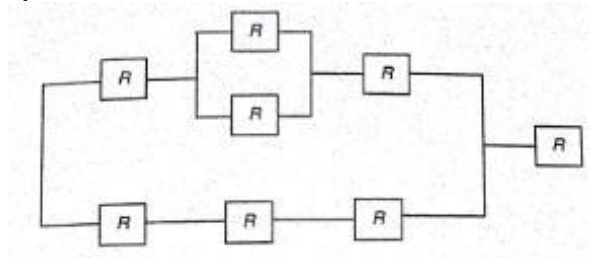

Figure 1
- a** For the following network shown in figure 1, derive an expression for the system reliability in terms of the component reliabilities. Also compute the system reliability if $R = 0.9$. **07**